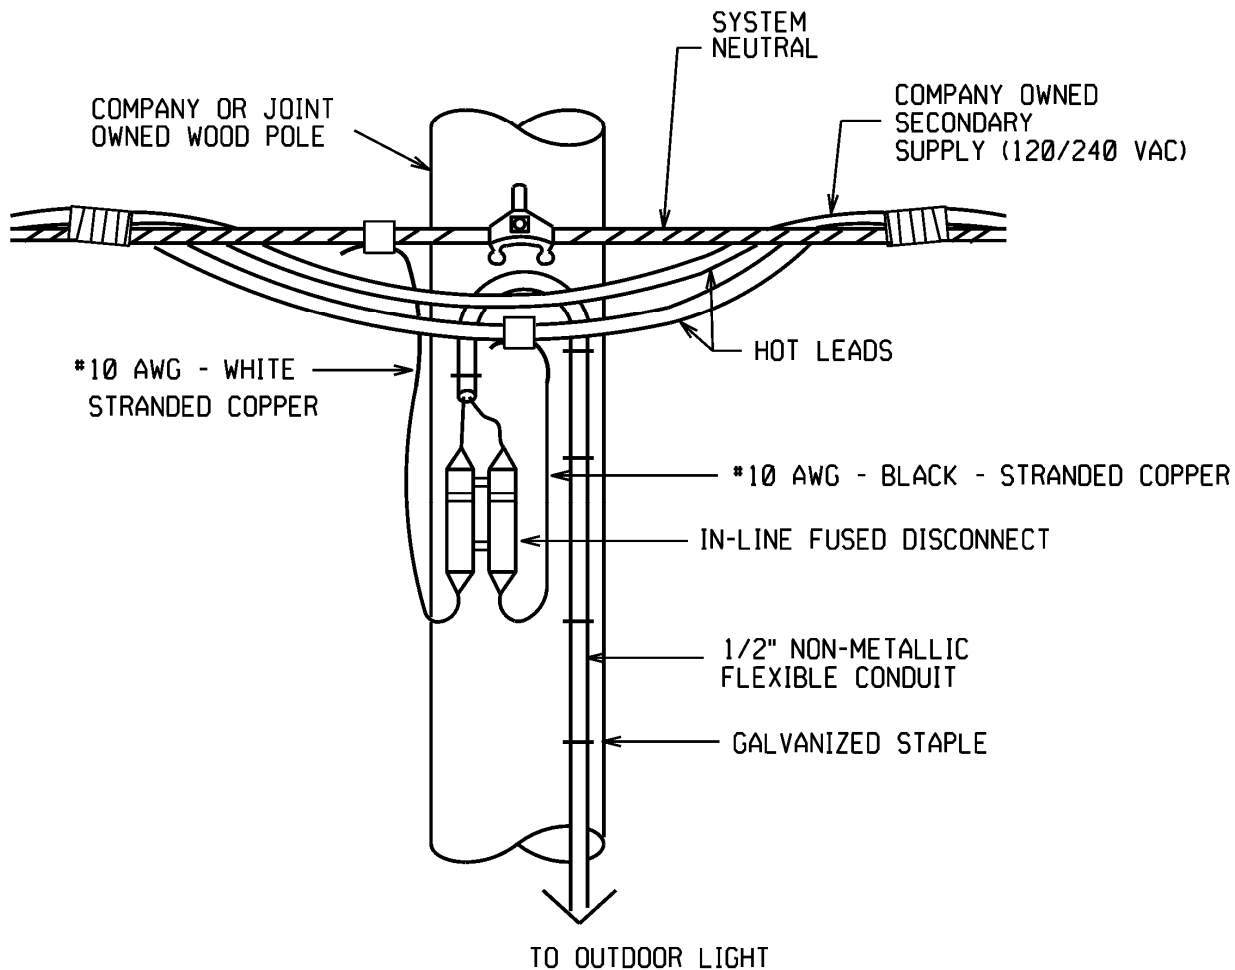
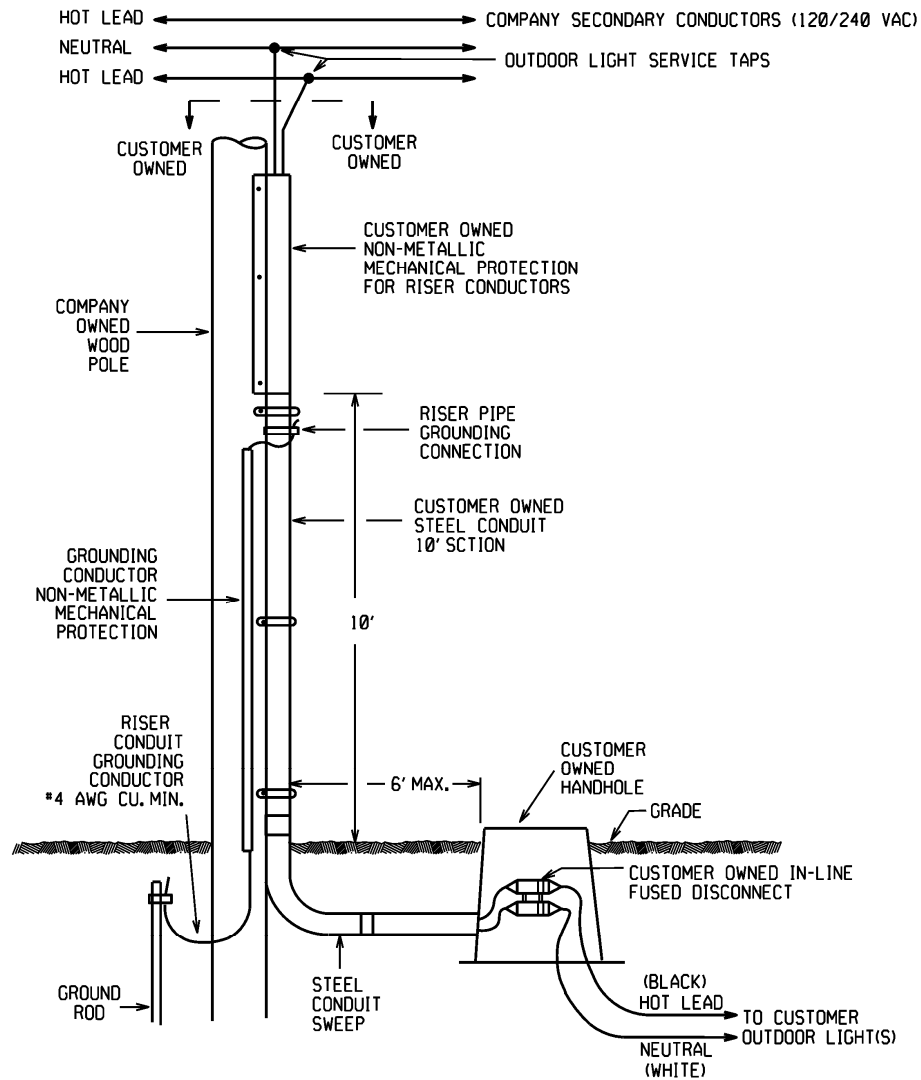

Figure 6 – Connection of Overhead Supplied Customer Owned Outdoor Light to National Grid Overhead Secondary Conductors
Figure 7 – Connection of Customer Owned Outdoor Lighting Riser to National Grid Overhead Secondary Conductors
Electrical Separation: The customer is responsible to create an electrical separation between the National Grid secondary conductors and the customer owned outdoor lighting conductors. This is required to insure the safety of National Grid and customer employees. It also clearly defines where National Grid ownership ends and customer ownership begins. This is accomplished by installing a dual pole in-line fuse holder with a midget cartridge style fuse on every outdoor light supply located as near as possible to the connection to the National Grid owned secondary conductors. This fuse, in addition to providing electrical protection, shall serve as a future disconnect point for the customer owned outdoor light. Once installed, the customer may disconnect or reconnect a customer owned outdoor light only by means of the in-line fuse holder. See Figure 6 for overhead supplied outdoor lights, and Figures 7, 8, 9, or 10 for underground supplied outdoor lights. See Figure 12 for in-line fused disconnect details.
1. Install customer owned handhole as shown in Figure 7. Customer owned handhole shall house the in-line fused disconnect. See page 14 for details on the in-line fused disconnect.
3. No more than (2) riser conduits may be attached to a pole. Consult National Grid Engineering if more than (2) risers are desired.
1. For all new installations and modifications to existing installations, the customer is required to install an in-ground handhole located as close as possible to the company provided electrical source point, as illustrated in Figures 7, 8, and 9.